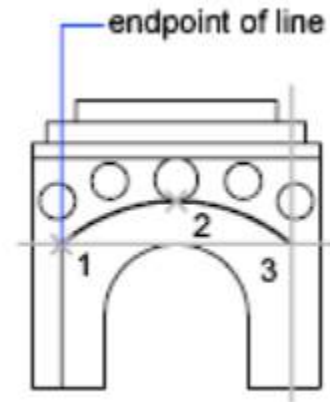

Figure 27
1. Draw Arcs by Specifying Three Points: You can create an arc by specifying three points. In the following example, the start point of the arc snaps to the endpoint of a line. The second point of the arc snaps to the middle circle in the illustration (Fig. 27).